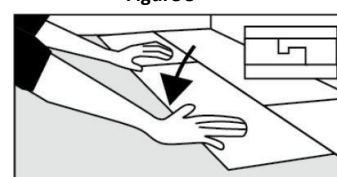

Figure 4
- Let the short side of the plank fold down until the tongue and groove lock together on the side and ends (**Figure 4**).